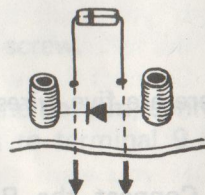

Figure 9
- From the top of the cardboard panel, insert the two leads of the diode through the holes next to the schematic symbol. Banded end to terminal 16. (See Figure 9.)